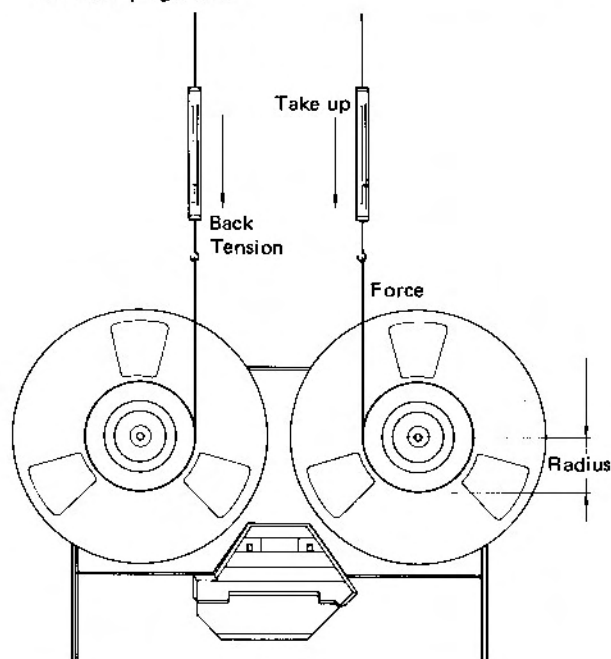

Fig. 2-4.
- Hold the spring scale with enough force to allow steady reading. See Fig. 2-4.